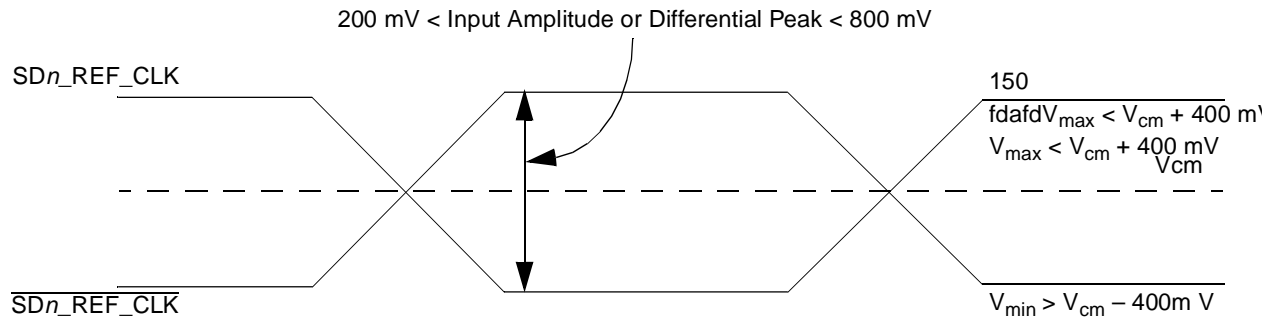

Figure 51. Differential Reference Clock Input DC Requirements (External AC-Coupled)
- For **external AC-coupled** connection, there is no common mode voltage requirement for the clock driver. Since the external AC-coupling capacitor blocks the DC level, the clock driver and the SerDes reference clock receiver operate in different command mode voltages. The SerDes reference clock receiver in this connection scheme has its common mode voltage set to `SGND_SRDSn`. Each signal wire of the differential inputs is allowed to swing below and above the command mode voltage (`SGND_SRDSn`). Figure 51 shows the SerDes reference clock input requirement for AC-coupled connection scheme.